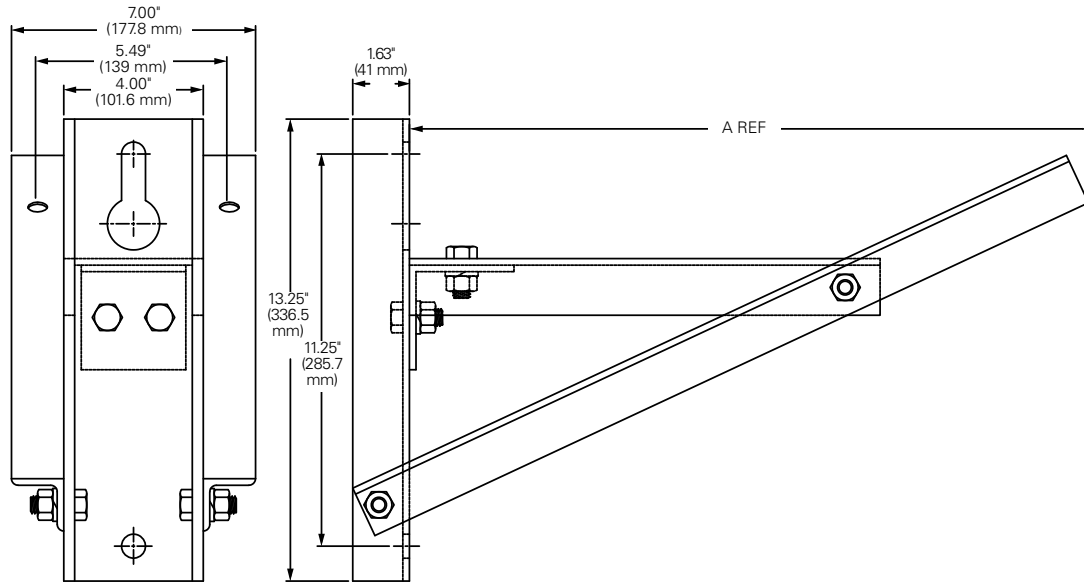

Figure 8. Pole-mount bracket and extended pole-mount bracket
M	Pole-mount Bracket ② (D-73P3 only) see Figure 8
X	Extended Pole-mount Bracket (D-73P3 only) see Figure 8